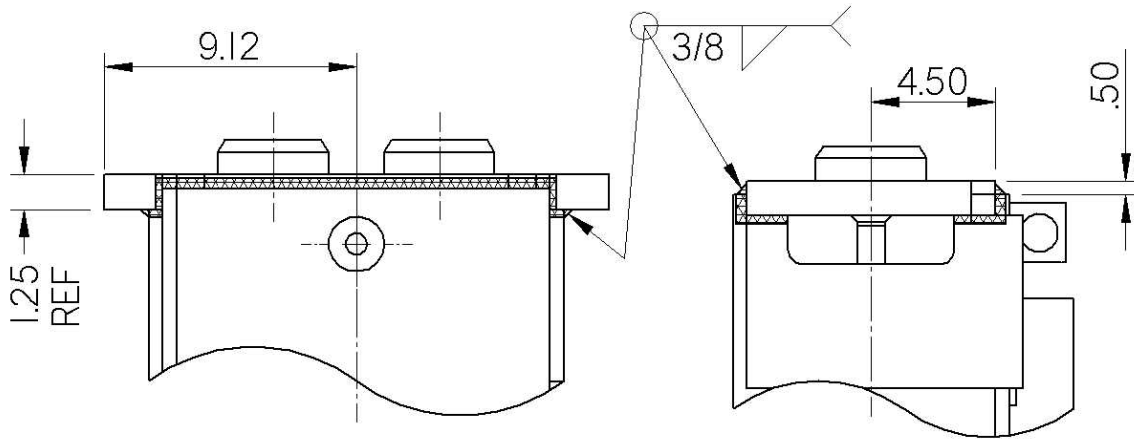

Figure 4: Welding of Top Mount Plate to Outer Tube
h) Weld a 3/8" fillet all around the top mount plate as shown in figure 4. Use Low Hydrogen E7018-3/32" or 1/8" welding rods. Allow the outer tube to cool slowly.